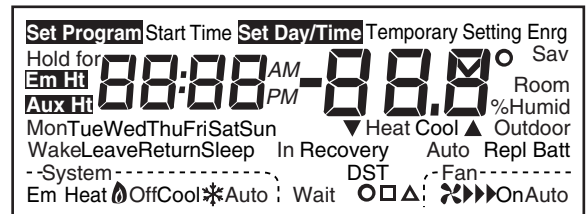

Fig. 9. Display of all the segments of the LCD.
- To enter the Installer Setup, press and hold the Information **i** key with the increase **▲** and decrease **▼** keys until the first number is displayed. All display segments appear for approximately three seconds before the number is displayed. See Fig. 9 and 10.